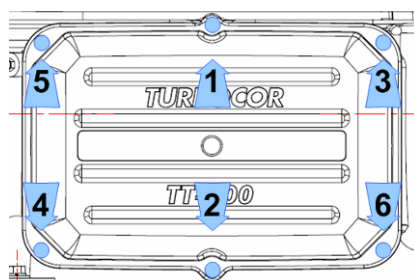

Figure 22 – Service Side Cover Install
8. Place the Service Side Cover and secure it with the fasteners according to the following sequence. Refer to Figure 22 (Service Side Cover Install).